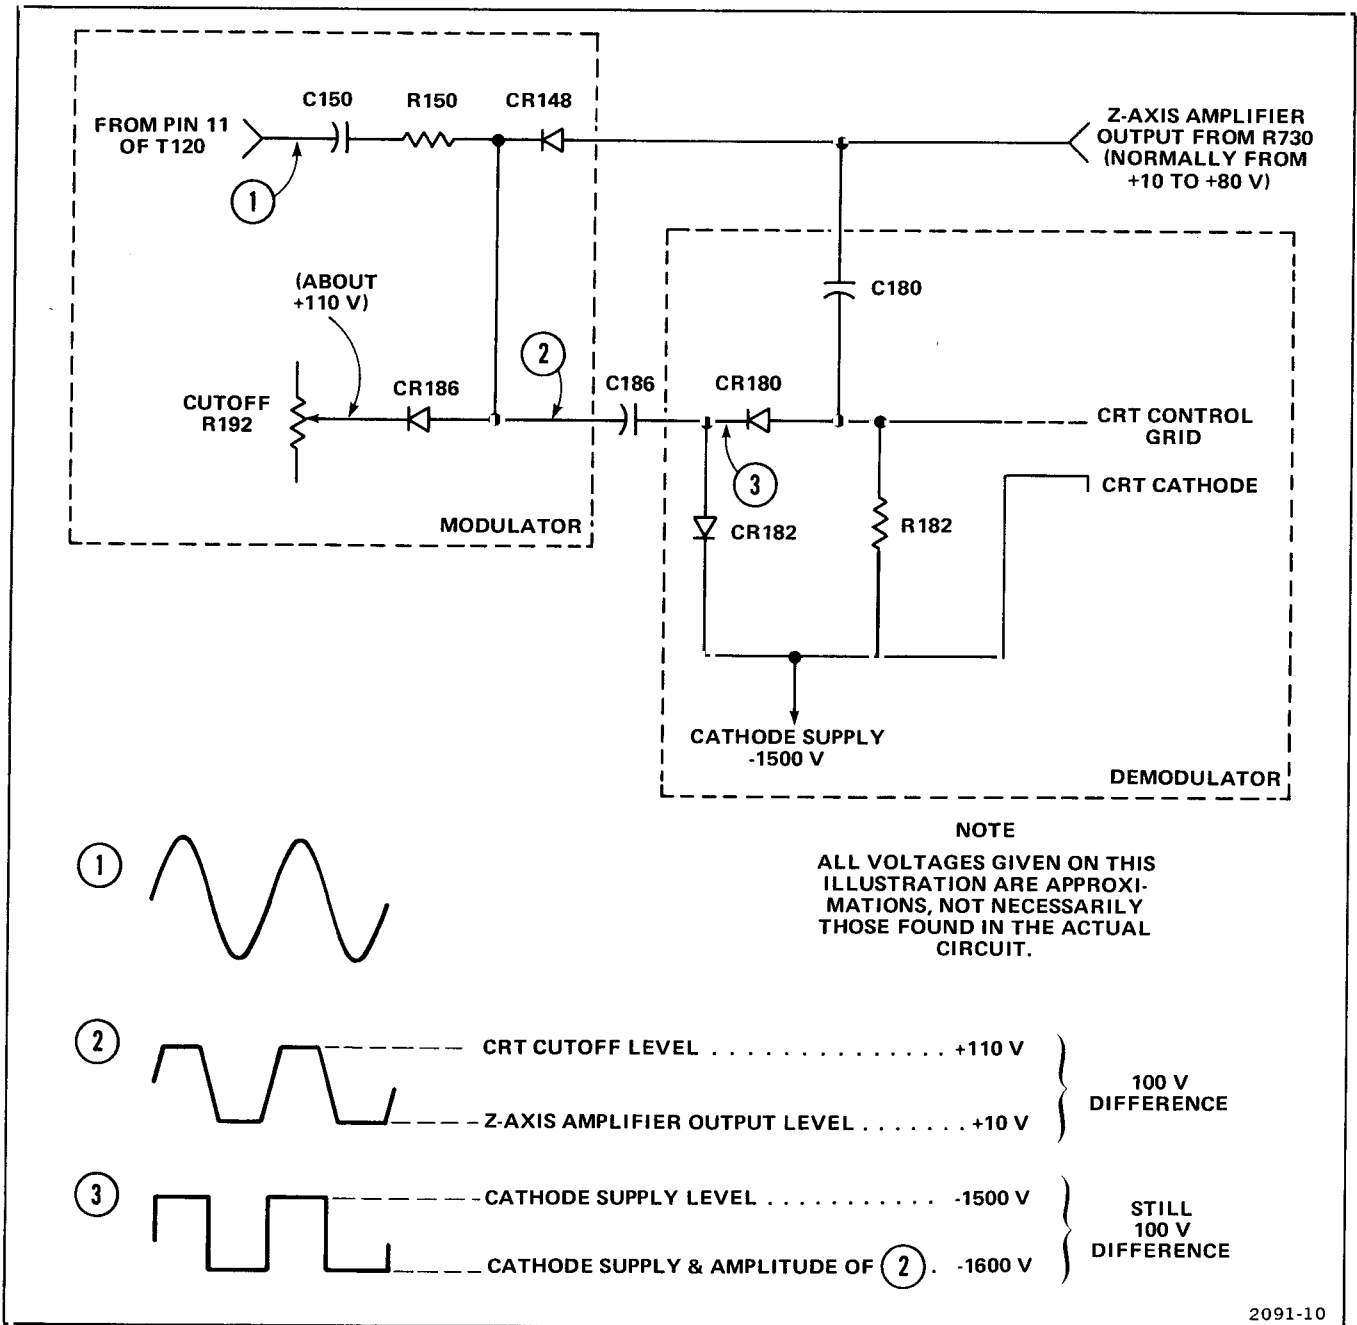

Figure 4-1. Simplified diagram of DC Restorer circuit.
*A simplified diagram of the Control-Grid DC Restorer is shown in Figure 4-1. The voltages given on this diagram are idealized levels and will not necessarily be the same as those found in the actual instrument.*
to the voltage level of the Z-Axis Amplifier output. The result is a square-wave output from the Modulator, with the amplitude determined by the difference between the Z-Axis Amplifier output level and the setting of R192 (Cutoff). (See waveform 2 on Fig. 4-1.) This square wave is coupled through C186 to the Demodulator.
**DEMODULATOR.** The Demodulator rectifies the signal from the Modulator and references it to the crt cathode supply level. The positive swing of waveform 3 (see Fig. 4-1) is limited by CR182 to the Cathode Supply level while the negative excursion is coupled through CR180 to C180. Quiescently, C180 will charge to about -1500 volts through R182. After repetitive cycles from C186, C180 will charge to the negative level of waveform 3. Capacitor C180 holds the voltage constant at the crt control grid, and also provides a path for the ac portions of the Z-Axis Amplifier output signal to be coupled to the crt control grid.